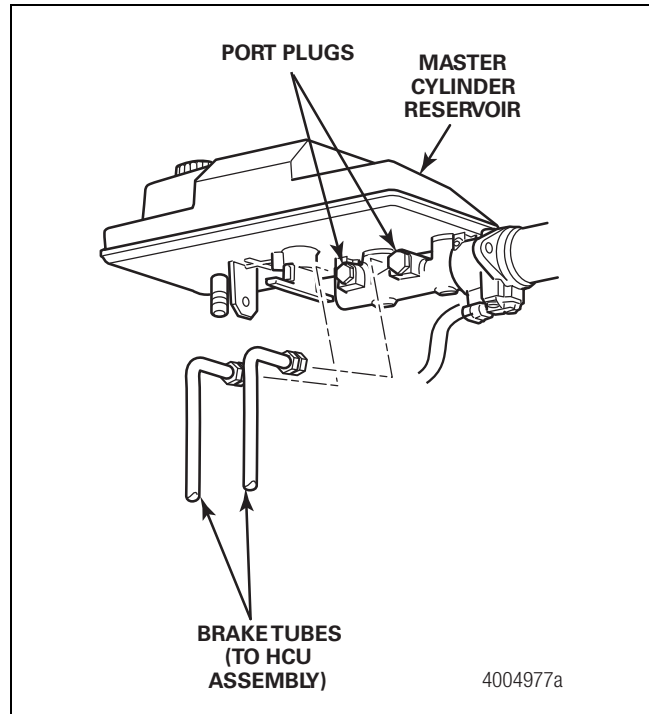

Figure 4.39
12. Disconnect the two brake tubes from the master cylinder. Plug the brake tubes and the master cylinder ports to protect them from contamination. Figure 4.39.